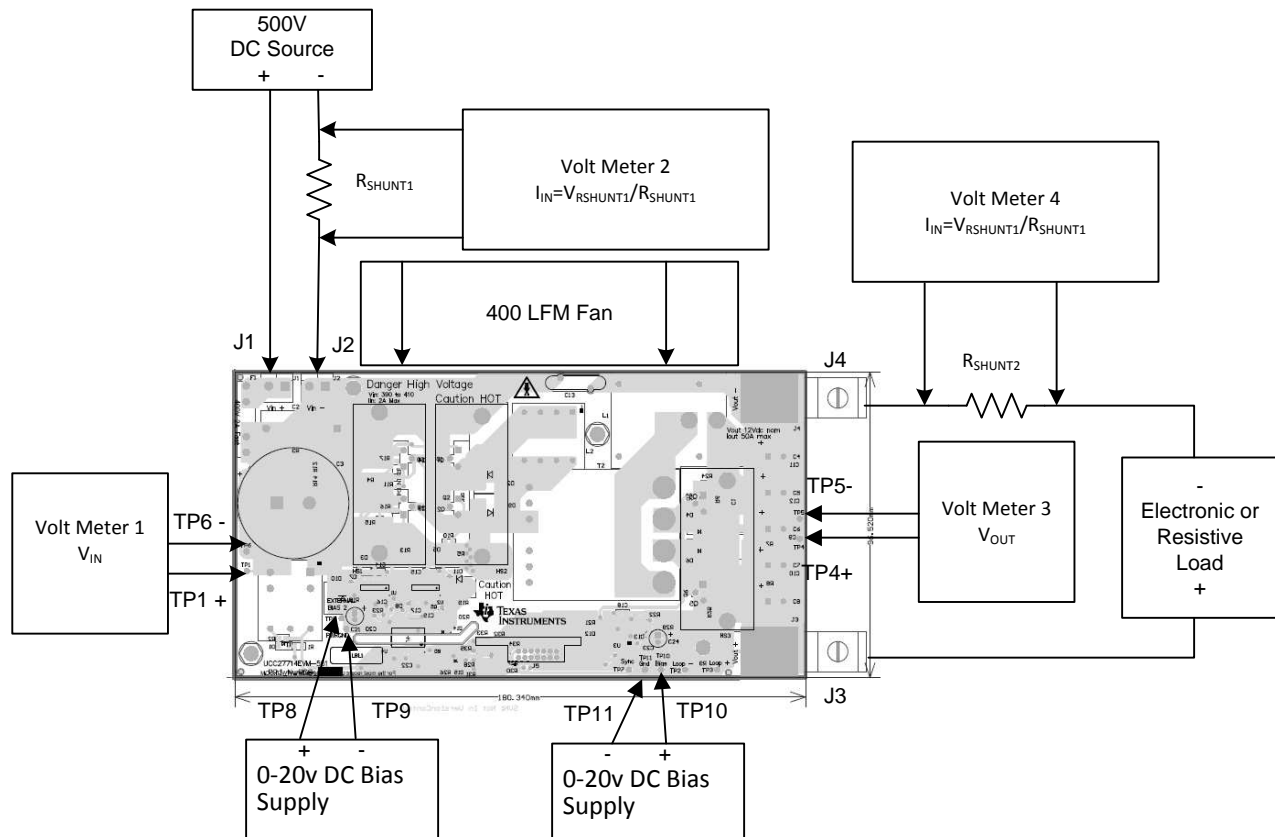

Figure 3. Test Setup to Measure Efficiency
2. Connect test setup similar to Figure 3 before applying power to the EVM.